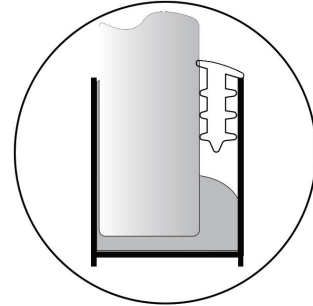

FIG 17.
- Starting at the top of the wall channel, from outside the shower, spray with warm soapy water then insert rubber wedge seal into gap (removing timber wedges if used) (**FIG 17**). Leave rubber wedge protruding 40mm at top to cut off later.